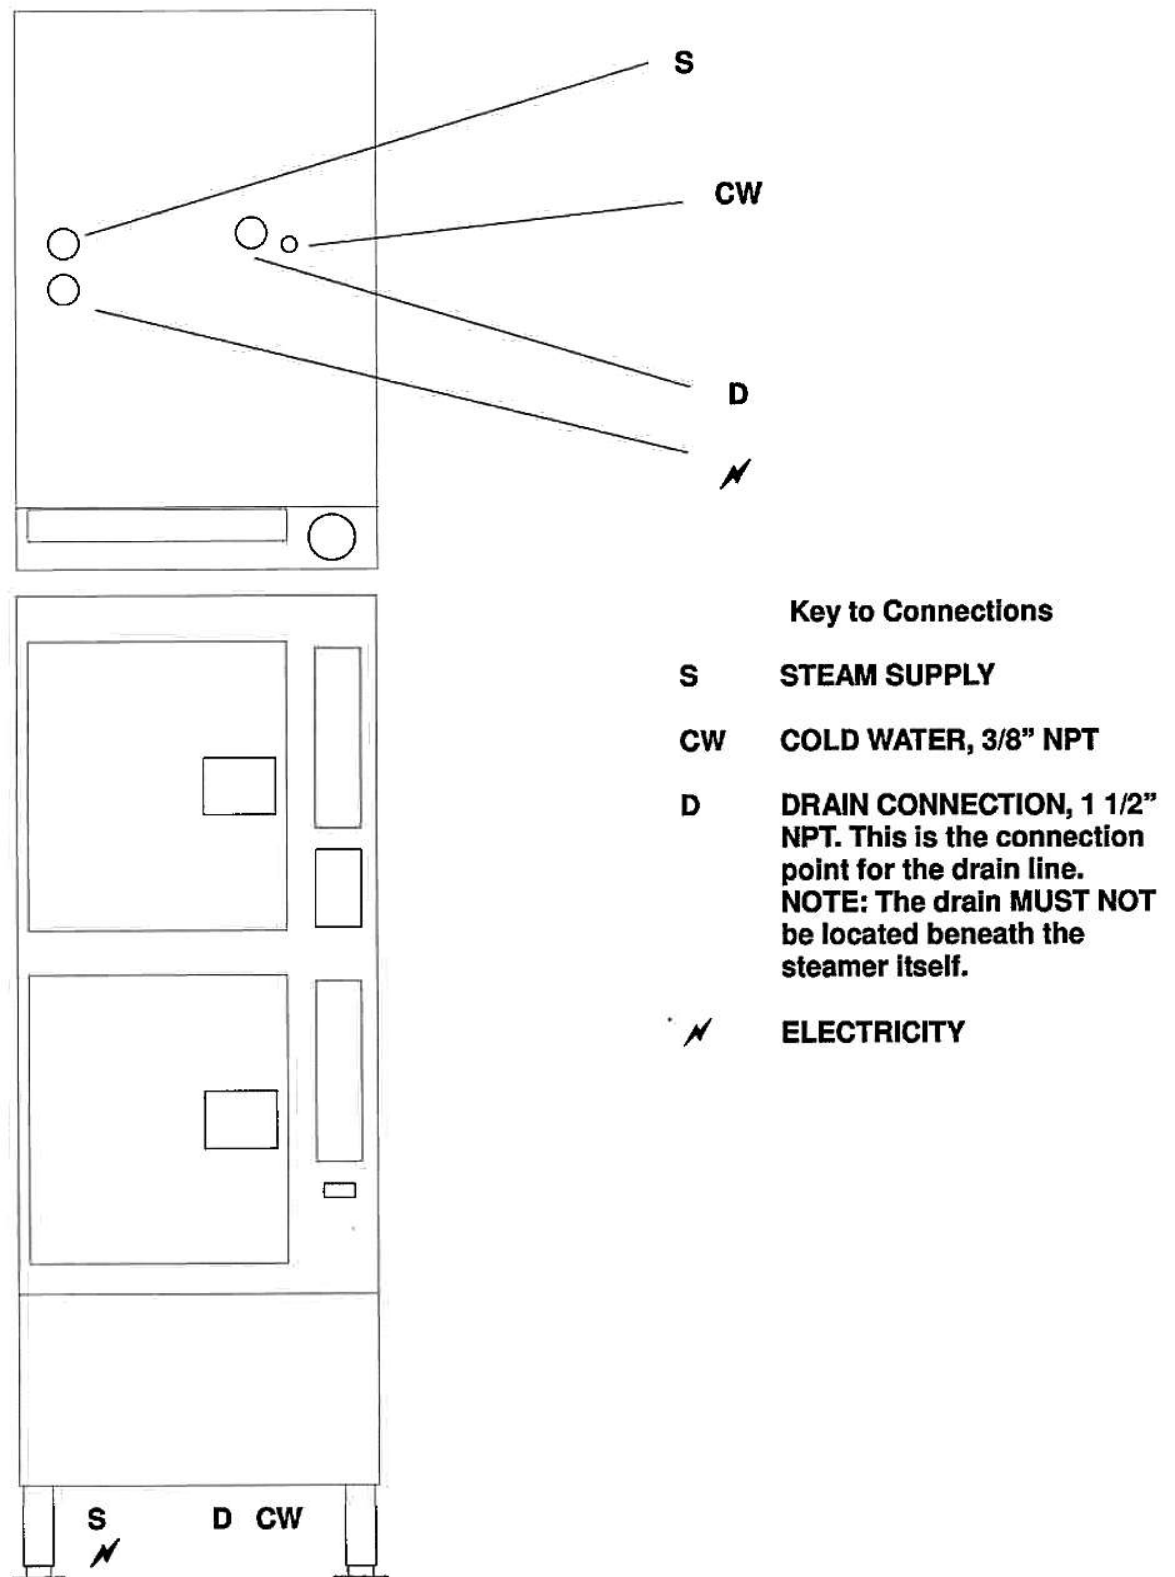

Figure 2-2
- The 24CDP10 has a 3/8" NPT female fitting on its underside for the condenser. See Figure 2-2.